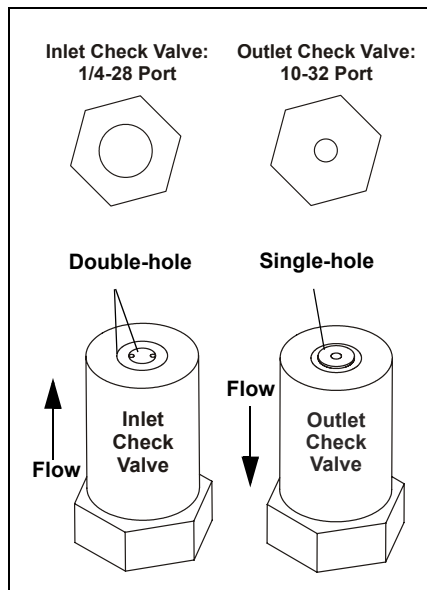

Figure 9-3. Check Valve Assemblies
NOTE The *inlet* check valve assembly housing has a 1/4-28 port; the *outlet* check valve assembly housing has a smaller, 10-32 port (see Figure 9-3).
10. Inspect the new inlet check valve assembly (P/N 045722) to verify that the double-hole end of the cartridge (see Figure 9-3) is visible.
11. Inspect the new outlet check valve assembly (P/N 045721) to verify that the single-hole end of the cartridge is visible (see Figure 9-3).